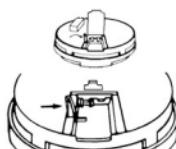

FIGURE 9
**CAUTION! IF BATTERY REMINDER FINGER IS NOT HELD DOWN IN THE BATTERY COMPARTMENT BY THE BATTERY, THE BATTERY DOOR WILL NOT CLOSE, THE AC QUICK CONNECTOR WILL NOT ATTACH TO THE ALARM, AND THE ALARM WILL NOT ATTACH TO THE TRIM RING (SEE SECTION 6, FIGURE 9).**
When installing the battery, press the battery reminder finger down into the battery compartment and install the battery (see Figure 9).